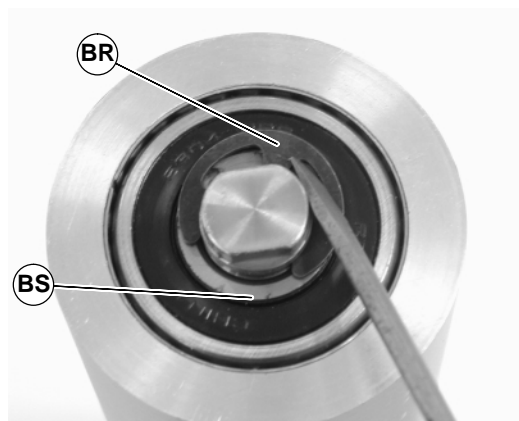

Figure 72
6. Remove the pulley shaft assembly: remove the clip ring (BR of Figure 72) and washer (BS) from one side of the pulley assembly.